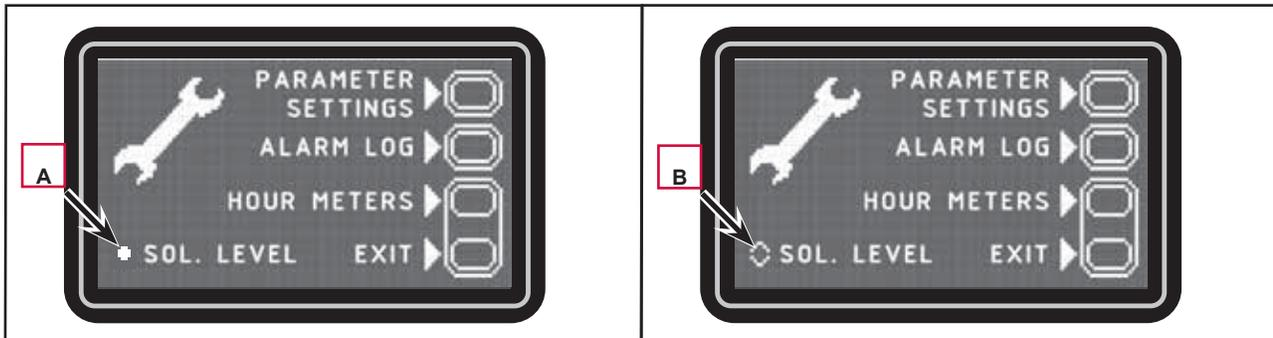

Figure 10
1. Insert the super user key (yellow) in place of the operator (grey) key to access the main screen (Figure 10) of the multifunction display.
2. With the solution tank more than half full, the symbol displayed is (A).
3. With the solution tank less than half full, the symbol displayed is (B).